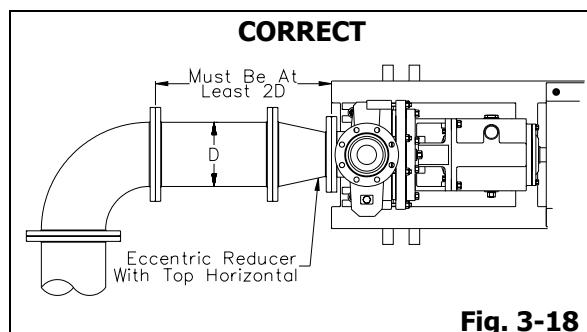

Fig. 3-18
1. Use of elbows close to the pump suction flange should be avoided. There should be a minimum of two pipe diameters of straight pipe between the elbow and suction inlet. Where used, elbows should be long radius (Fig. 3-18).